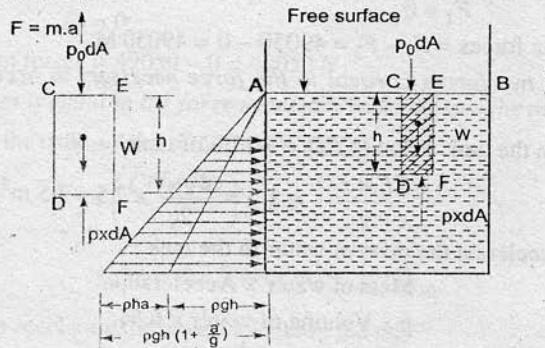

Fig. 3.49
3.8.2 Liquid Container Subjected to Constant Vertical Acceleration. Fig. 3.49 shows a tank containing a liquid and the tank is moving vertically upward with a constant acceleration. The liquid in the tank will be subjected to the same vertical acceleration. To obtain the expression for the pressure at any point in the liquid mass subjected to vertical upward acceleration, consider a vertical elementary prism of liquid $CDFE$.
The Fig. 3.49 shows the variation of pressure for the liquid mass subjected to a constant vertical upward acceleration.